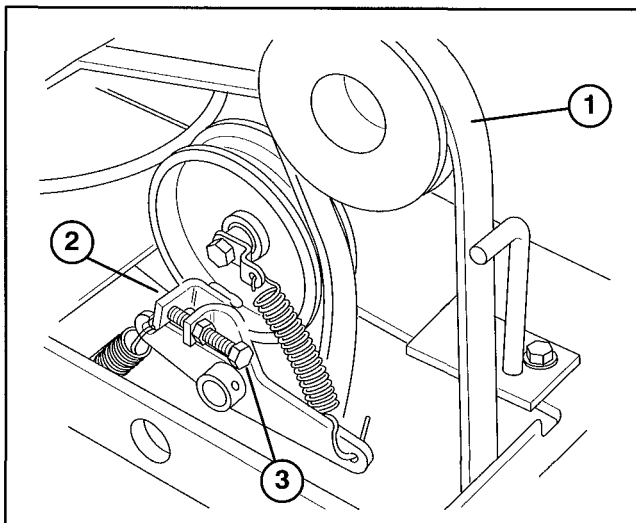

Figure 37
2. The transaxle belt (Fig. 37) is properly adjusted when there is a gap of 1/4" between drive take up bracket and end of stop bolt, when clutch is engaged.